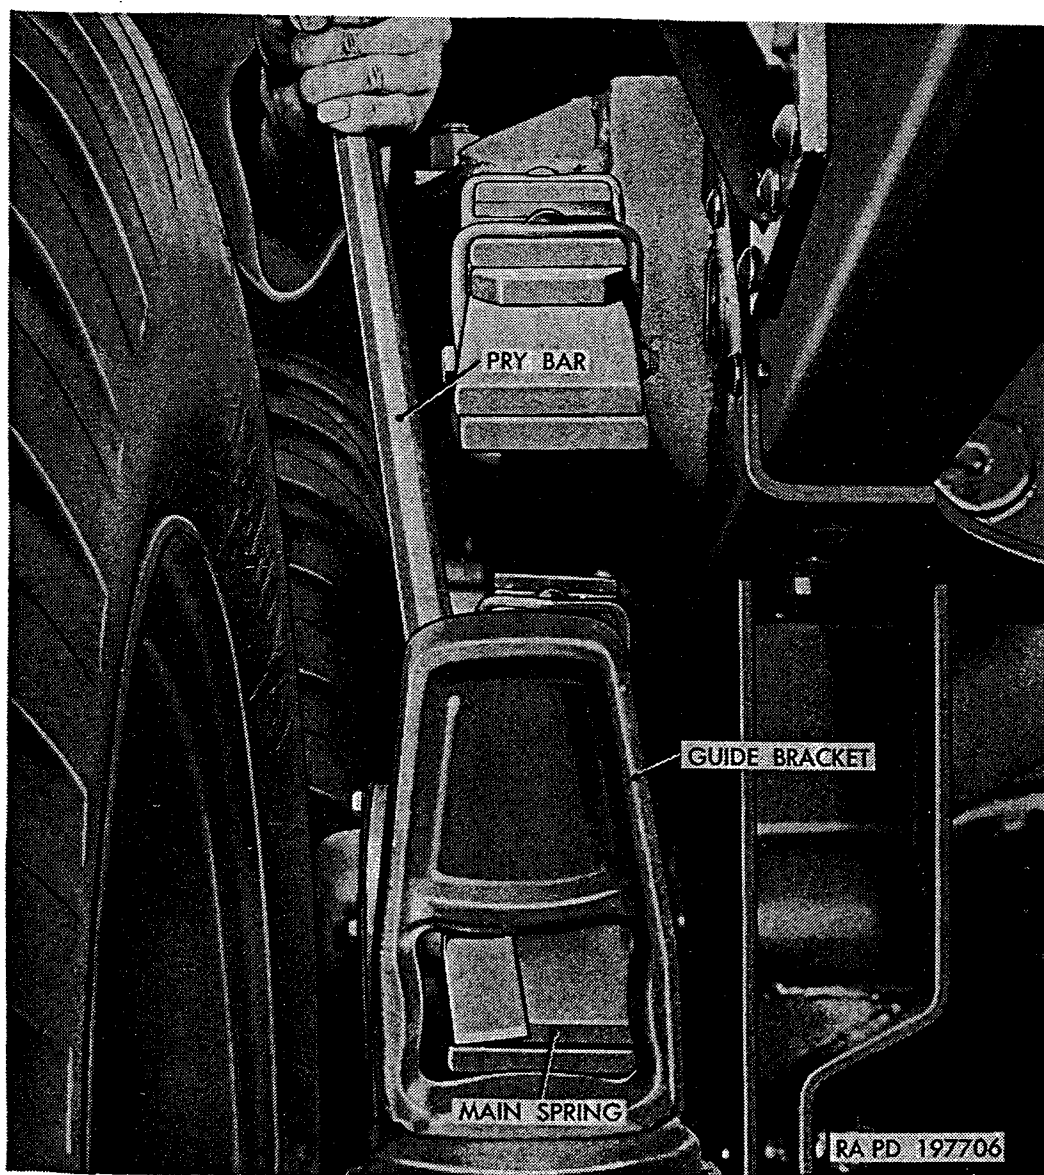

Figure 293. Removing main spring end from guide bracket.
- (7) Place end of short pry bar against end of main spring (fig. 293) and pry against spring guide bracket. This will rotate axle housing enough to allow spring to be removed from rear guide bracket.